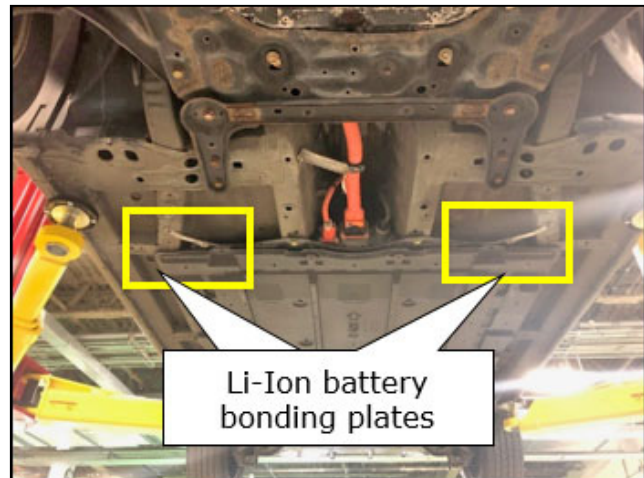

Figure 5
5. Locate the two (2) Li-Ion battery bonding plates connecting the HV battery case to the vehicle body (see Figure 5).
6. Apply rust penetrant to the four (4) bolts of the bonding plates.